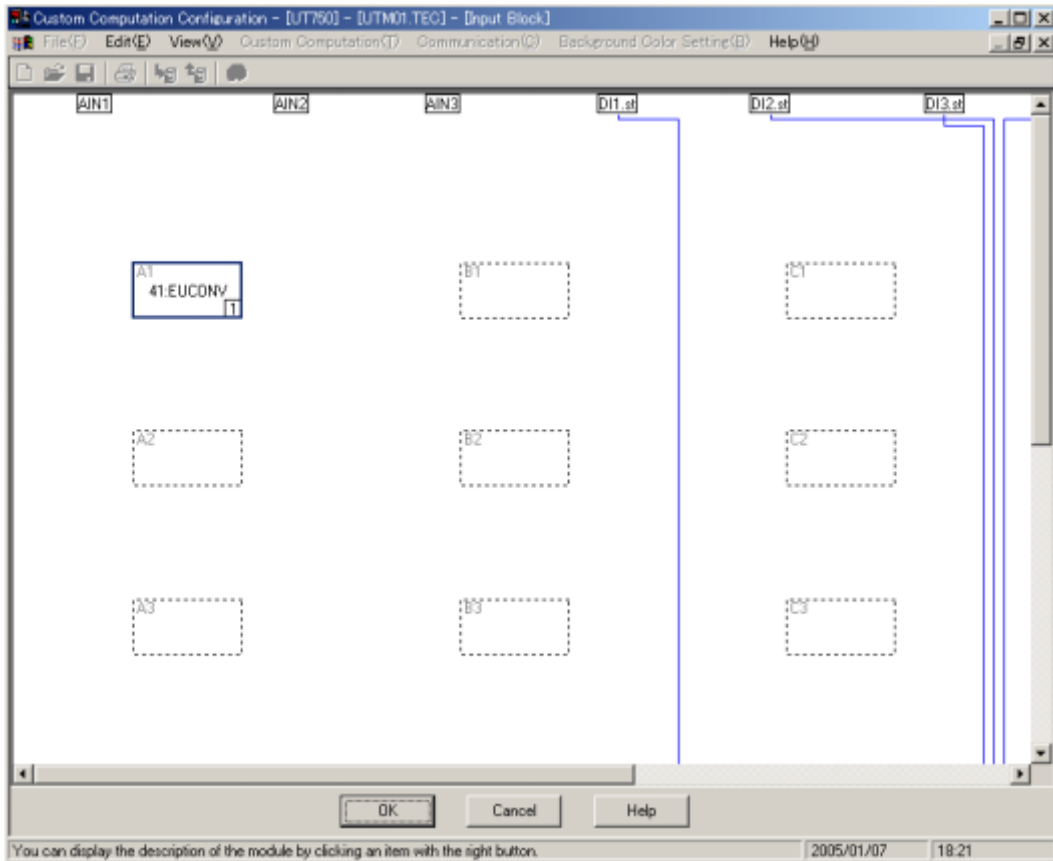

Figure 12.1.6 Example of the [Input Block] Dialog Box where the EUCONV Module Is Registered As the First-run Module
- (3) Click the <Special Calculation> index.
- (4) Double-click <41: EUCONV>. The EUCONV module is registered with the [Input Block] dialog box, as shown in Figure 12.1.6.